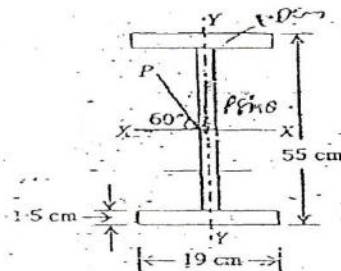

Fig. 3
- (b) The I-beam shown in Fig. 3 is simply supported at its ends over a 4 m span and carries central load of 50000 N which acts through the centroid, the line of action being as shown in Fig. 3. Calculate the maximum stress. 15